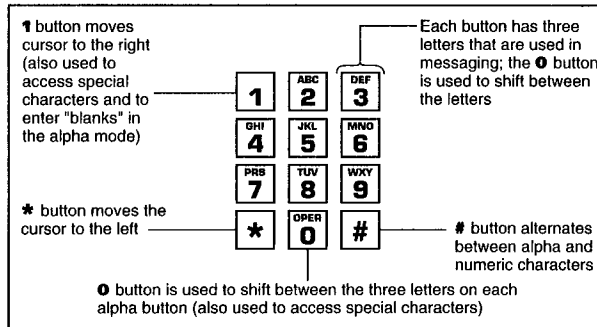

Figure 1-1
Refer to Figure 1-1 for an explanation of the dialpad buttons.
4. Enter the name or memo. See Figure 1-1, Dialpad Information.